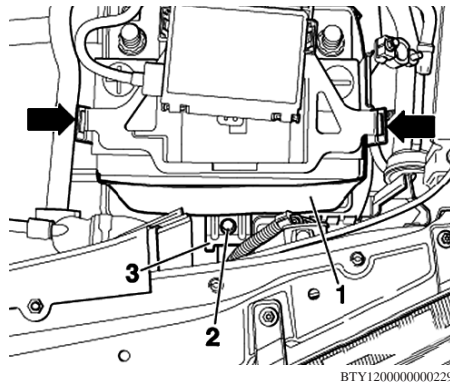

Fig. 13 Battery retaining bracket removal
13. Unclip retaining frame for fuse holder (arrows), **Fig. 13**.
14. Remove bolt (2) and remove retaining bracket (3), **Fig. 13**.